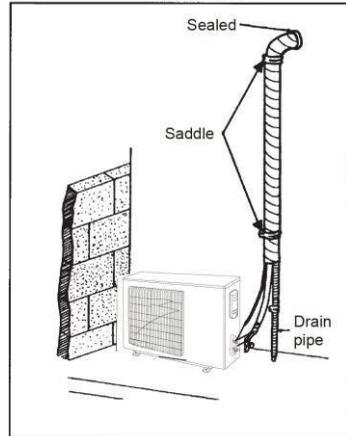

Fig. 15
- (1) If the outdoor unit is installed lower than the indoor unit. (See Fig. 15)